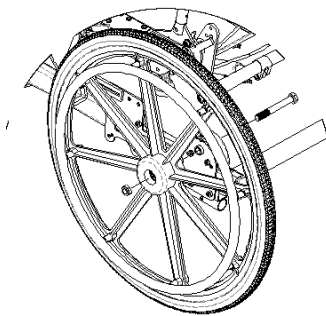

Figure 10.16: Removing rear wheels fastened with axle bolt.
1. Unless the product was ordered with quick-release axles, the rear wheels can be removed using a $\frac{3}{4}$ " socket head and a $\frac{3}{4}$ " crescent wrench (see Figure 10.16). If the chair is configured using axle bolts (not quick-release), the axle bolt heads must be located on the inside of the frame with the nuts located on the outside of the rear wheel hubs. If axle bolts are installed backwards, the seat frame may hit the end of the